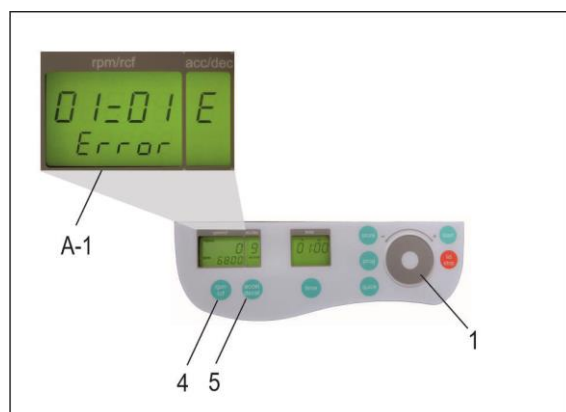

Figure 10
The list of the last 99 error messages can be looked over by pressing the key "rpm/rcf" (4) and leaf through it with the control field (1). The respective error codes appear in the display "rpm/rcf" (A-1) (see Figure 10). The first two numbers indicate the appeared errors ongoing from 00 to 99, the last two numbers indicate the error code. Please refer to, "Table 4: " (see APPENDIX p. 32)